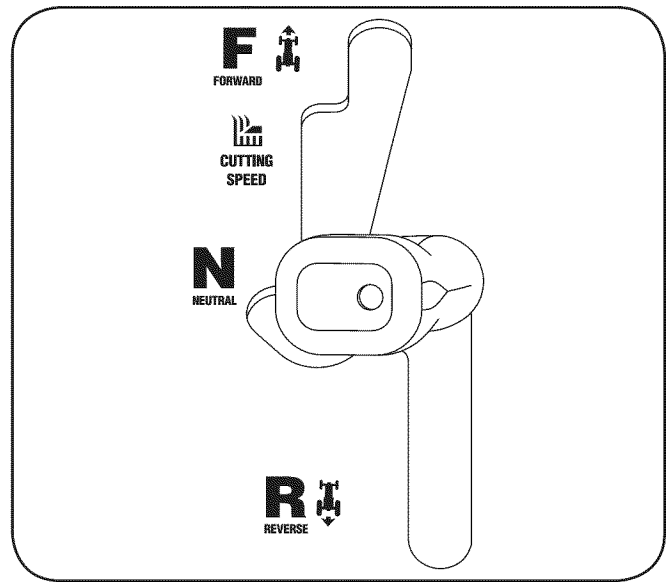

Figure 4-4
The speed control lever, located on the left rear fender, controls the ground speed of the lawn tractor as well as the direction of travel. See Figure 4-4.
- Slowly move the speed control lever in desired "F" forward or "R" reverse position. The further forward or rearward that the lever is moved, the faster the tractor will travel. Refer to Figure 4-4.